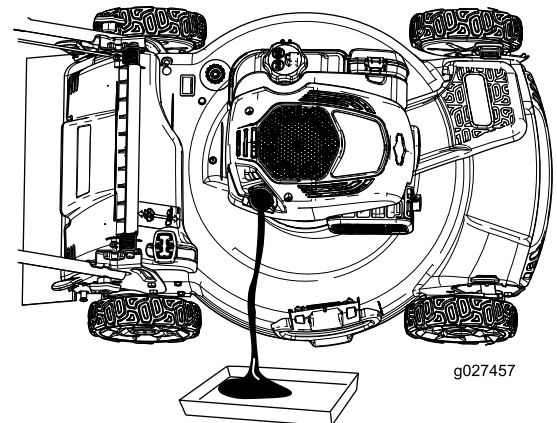

Figure 24
5. Tip the machine onto its side with the air filter up to drain the used oil out through the oil-fill tube (Figure 24).